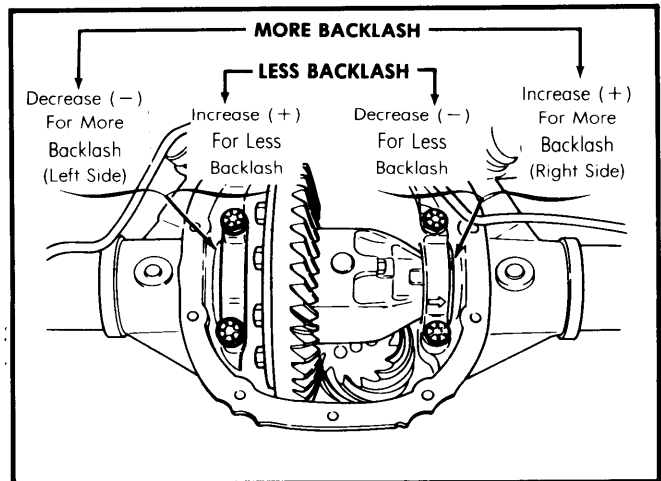

Fig. 4 Backlash Adjustment
3) Check ring and pinion backlash. If backlash is less than specified, add .020" to shim size on right side and subtract .020" from shim size on left side. If backlash is still not within specifications, increase or decrease shim size where necessary to correct reading. See Fig. 4. Retorque bearing cap bolts and rotate gear assembly several times. Recheck backlash and correct as necessary.